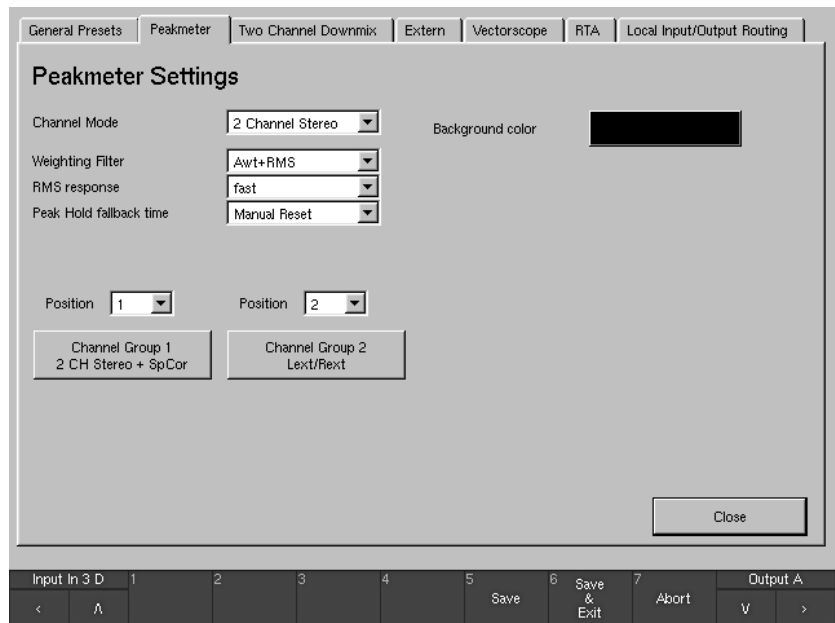

Fig. 4-6: The Peakmeter menu tab in 2 Channel Stereo mode
See Fig. 4-6 and Chapter 4.14
- 2 Channel Stereo mode: 2 groups (see Fig. 4-6 and Chapter 4.14)